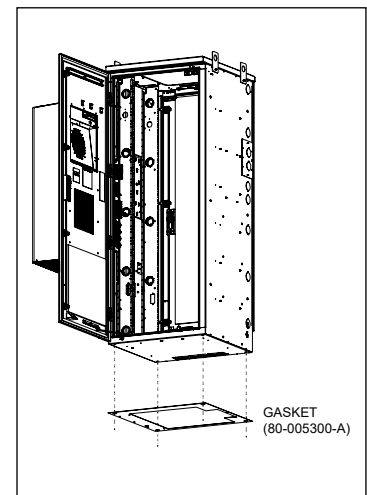

Figure 7 Gasket Installation
3. Install the gasket and place into position on the pad/platform so that the gasket will be underneath the bottom of the CUBE when it is placed. Line up the gasket so that the cutouts are in position around the conduit opening and over the mounting holes as shown in Figure 7.